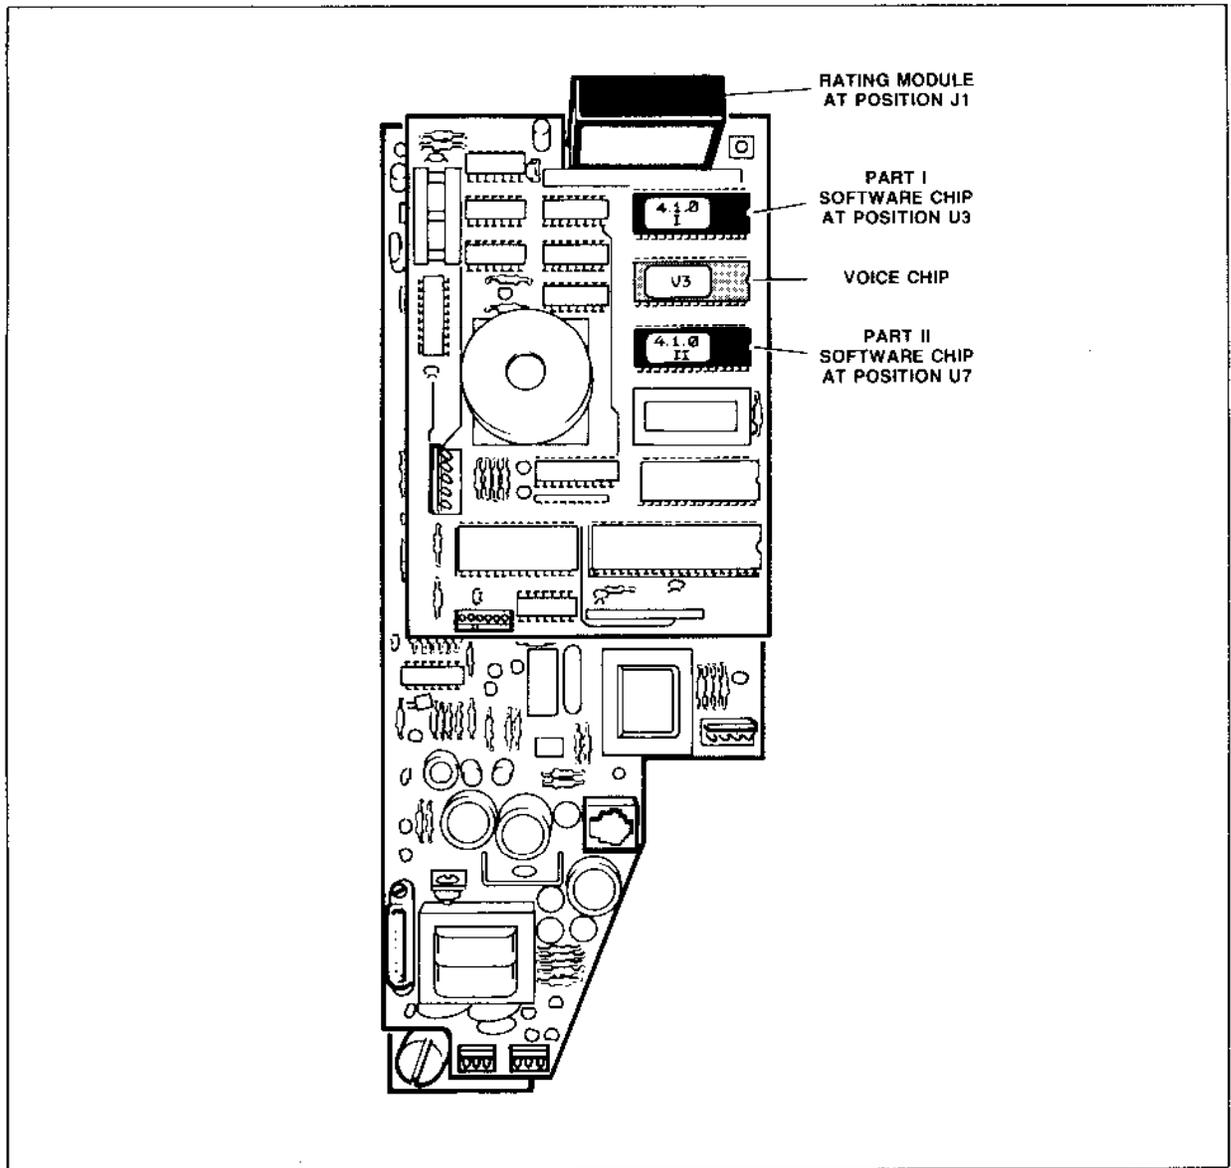

Figure 13. Software Installation
- (1) Open the cabinet and disconnect the connector-terminated terminal block power cable from the PCM-4 at Position J6 of the mainboard. See Figure 13 on the following page.
- (2) Disconnect all other connectors from the PCM-4.
- (3) Remove the PCM-4 from the lower housing and place it on a table or flat work surface.
- (4) Using a small blade screwdriver, gently pry the outdated Part I software chip from its socket on the auxiliary board.
- (5) Insert the updated Part I software chip into the socket. Ensure that the notch on the chip faces outward, away from the center of the board. In order to fit the chip into the socket, it may be necessary to push one row of pins in slightly by carefully pressing the row of pins against the edge of a table. Ensure that no pins are bent in the process of installing the chip.
- (6) Gently pry the outdated Part II software chip from its socket on the auxiliary board.
- (7) Insert the updated Part II software chip into the socket. Observe the same chip orientation and precautions as in step (5). Note that the three software chips must be positioned in the following order from the cutout area of the auxiliary board: Part I (Position U3), V3 (voice chip, Position U6), and Part II (Position U7). See Figure 13.
- (8) If installing a new or updated rating module, do the following:
Incorrect installation of program chips.	Remove power and ensure that the pins are installed in the correct sockets and that all pins are properly seated in their sockets. The notch on each chip should be facing outwards, away from the center of the board. See Figure 13. The program chip designated as Part I must be installed at U3. Chip V3 must be installed at U6, whereas Part II must be installed at U7. If chips are installed improperly or if pins are not properly seated, reinstall the chips.